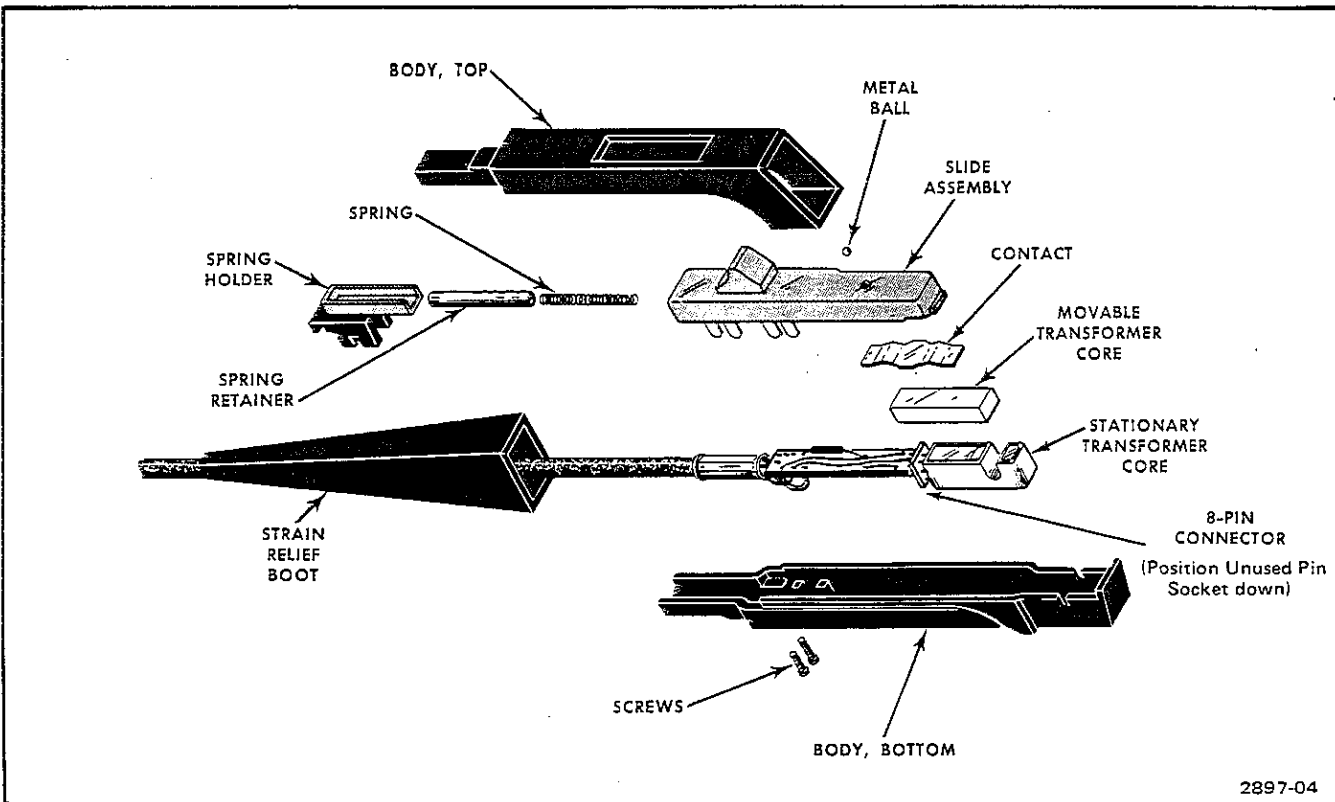

Fig. 3. Probe assembly exploded view.
**Probe Disassembly Procedure (see Fig. 3)**
### Probe Assembly Procedure (see Fig. 3)